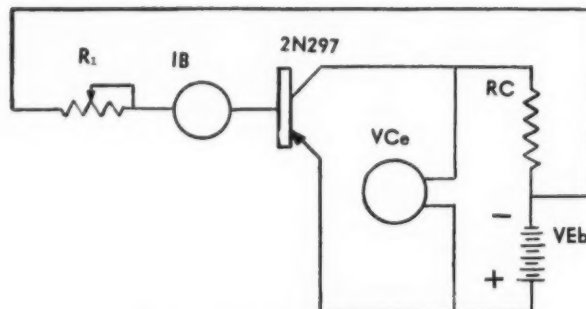

Fig. 2. Saturation Voltage Test
E. Saturation Voltage (VC_s), to be measured in the manner indicated by Fig. 2, shall not exceed 1.0 volt when VE_b is -15V, RC is 7.0 ohms, and R1 is adjusted until IB is 300 ma.
FIG. 2. GROUND DATA REDUCTION SYSTEM contains 24 FM demodulators and an audio channel for data reduction. It also contains the necessary correction circuits to correct zero drift and sensitivity changes in the data channels. It has wow and flutter air correction circuits as well as function generators to correct transducer non-linearities.
The primary function of the ground reduction system (Fig. 2) is to remove the analog information contained in the frequency-modulated carrier and present this to an oscillograph or pen recorder.
Servomechanisms are widely employed in military equipment to relieve pilot monotony when steering ships and aircraft, and also to accomplish jobs beyond human strength or coordination, achieving fire-control for gun batteries, holding a telescope sight on a star, or maintaining a level platform despite various motions of a ship or carrier. Other types of servos can control rates and acceleration or can perform calculations. Fig. 2 illustrates the numerous applications of servos, gyros and accelerometers applied in a single Air Force fighter. The operation of guided and ballistic missiles depends on servo systems, and our missile program is today creating a great market for lightweight, accurate servomechanisms.
FIG. 2. SERVO SYSTEM elements used in the Minneapolis-Honeywell MB-3 automatic flight control system for the North American F-100 D Super Sabre supersonic Air-Force jet fighter. Other servo systems in radar, firecontrol, etc., of this plane are not shown. (Courtesy Minneapolis-Honeywell Co.)